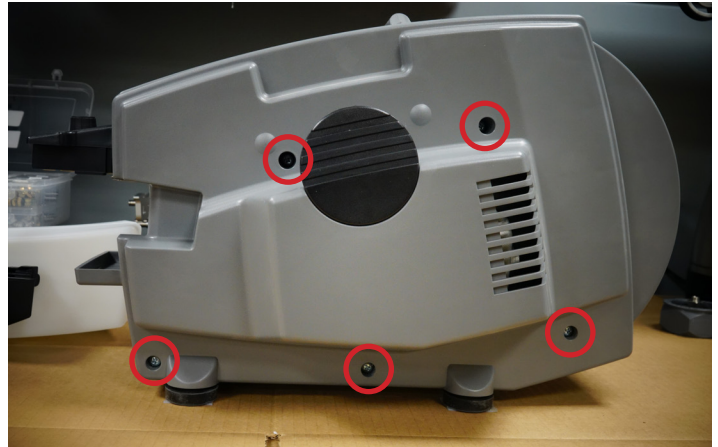

Figure 15-4
3. Remove the 5 screws holding on the right side cover (Figure 15-4)